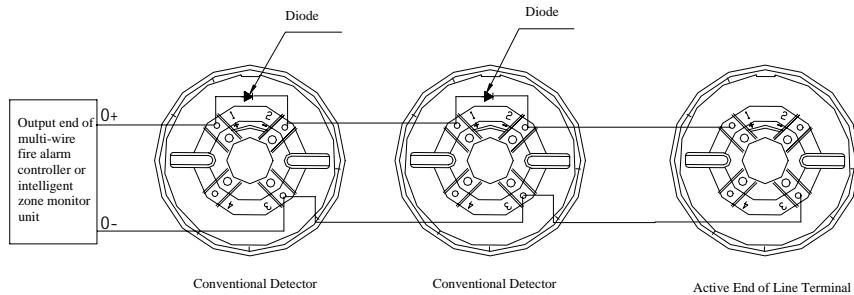

Fig. 2 System composition when the unit used as detector base
1. When the unit is used as a detector base, a conventional detector can be mounted on it. Connect the anode of zone loop to terminal "1" and cathode to terminal "3" as shown in Fig. 2.